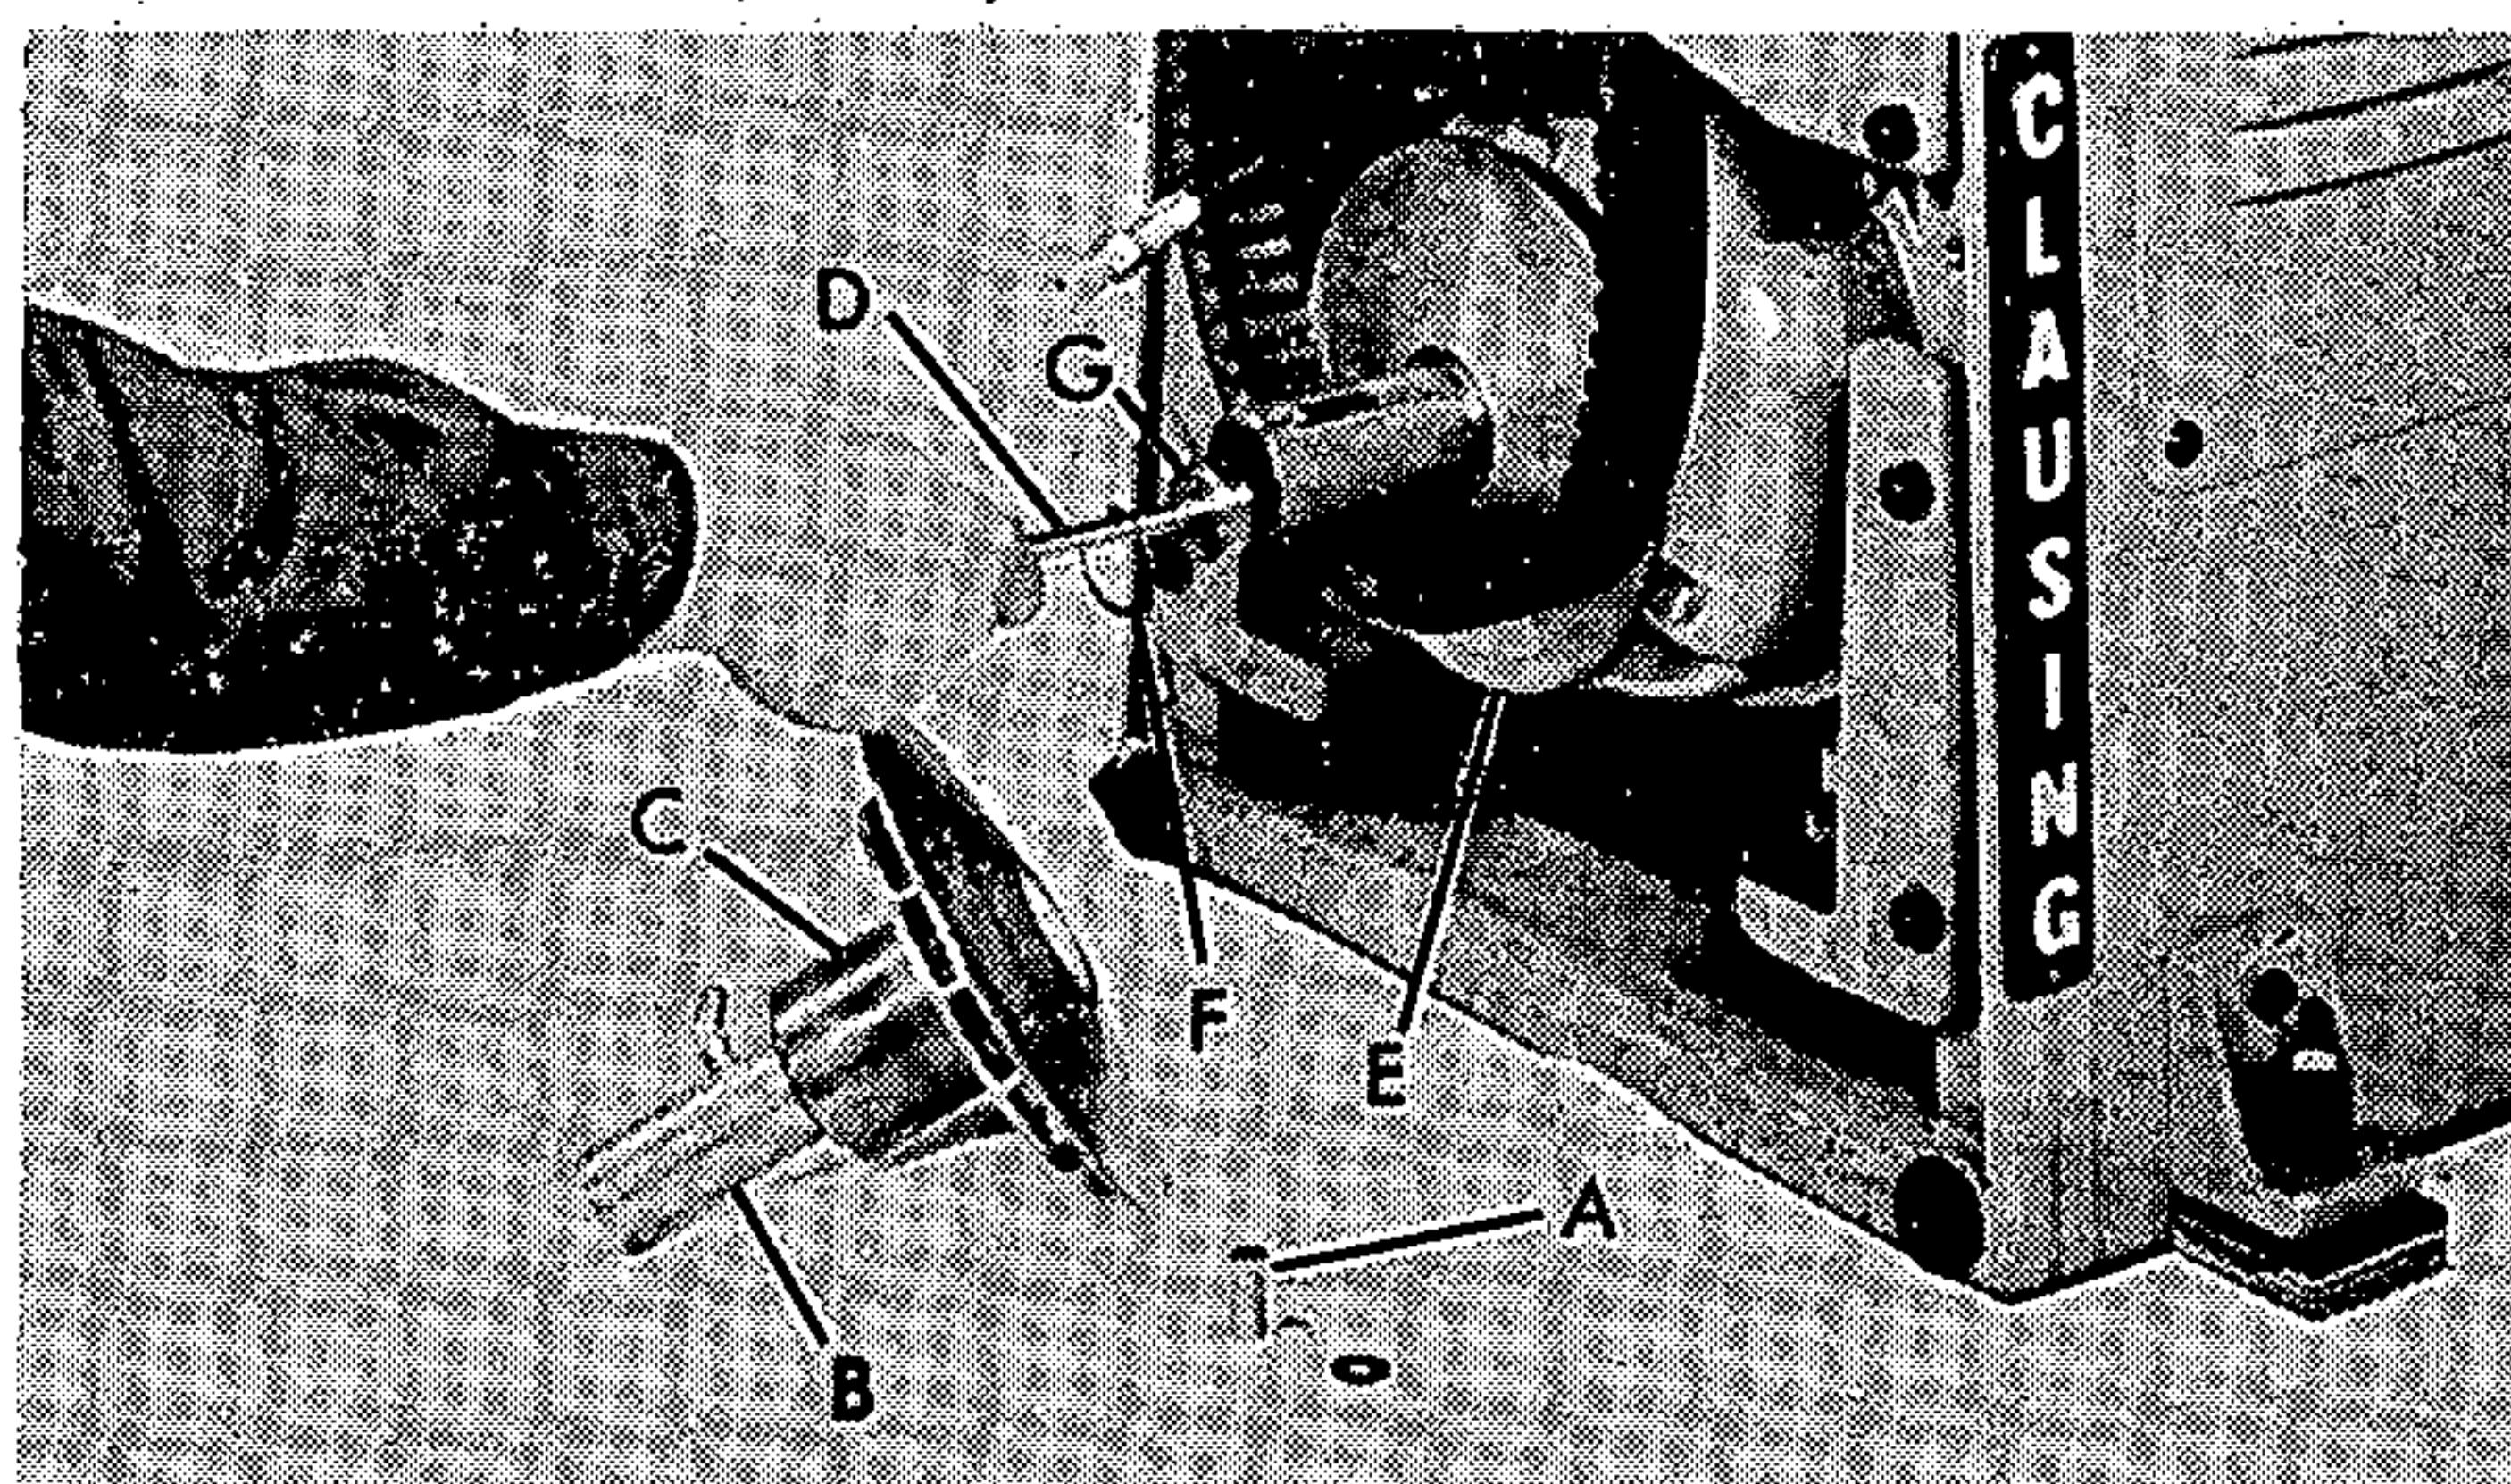

FIGURE 2
6. Remove sleeve (A, fig. 2) from hydraulic cylinder.
7. Pull hydraulic cylinder (B) with outer half of variable pulley (C) off shaft (D).
8. Press hydraulic cylinder (B) with bearing from outer half of variable pulley (C) being sure internal washer in pulley (snap ring on early models) remains in place.
CAUTION: Washer (snap ring on early models) must be in place in outer half of variable pulley (C, fig. 2) before installing bearing and housing assembly (A, fig. 4). An extra washer is supplied to aid in assembly if necessary.
9. With snap ring pliers, remove snap ring (F, fig. 2) from inner half of variable pulley.
10. Remove shaft (D) and bearing (G) from inner half of variable pulley (E).